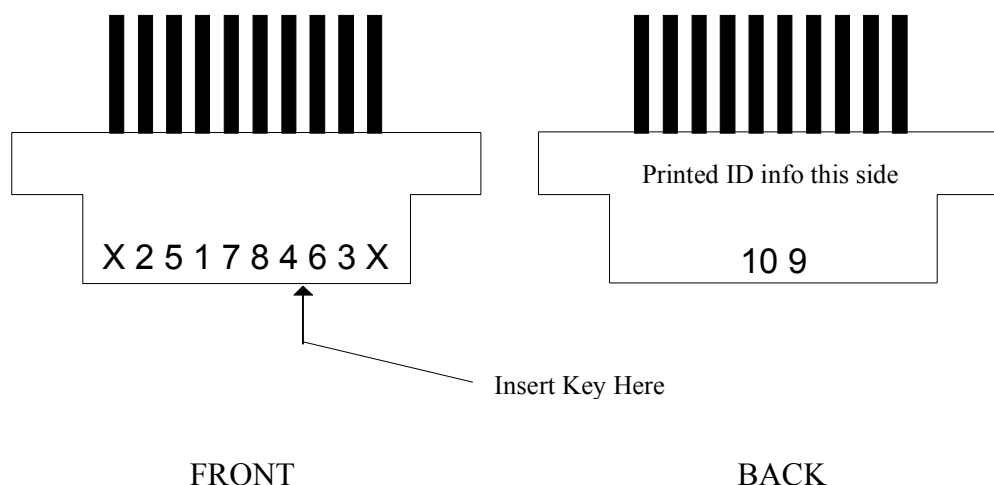

Figure 4-13. Card Edge Connector Numbering
1. Use a permanent marker to number the front of a new 20-terminal card-edge connector (673-200) as shown in Figure 4-13.
- Solder each of the six coaxial cables to the corresponding numbered terminal on the edge card connector as shown in Figure 4-13. The center conductor is soldered to a terminal on the front of the connector, while the outer conductor is soldered to the terminal directly behind. Insulate the connections using Teflon heat shrink tubing as shown. Before heating the shrink tubing, thoroughly rinse the connector and solder joints in distilled water, then blow dry with nitrogen gas (cleaning is not necessary if no-clean solder is used).
- Insert a key (673-201) into the slot between female contacts #4 and #6 to check for fit (see Figure 4-13). Remove key and coat edges with Eastman 910 cyanoacrylate adhesive. Insert key in slot to glue in place. Be careful not to get adhesive on the contacts!